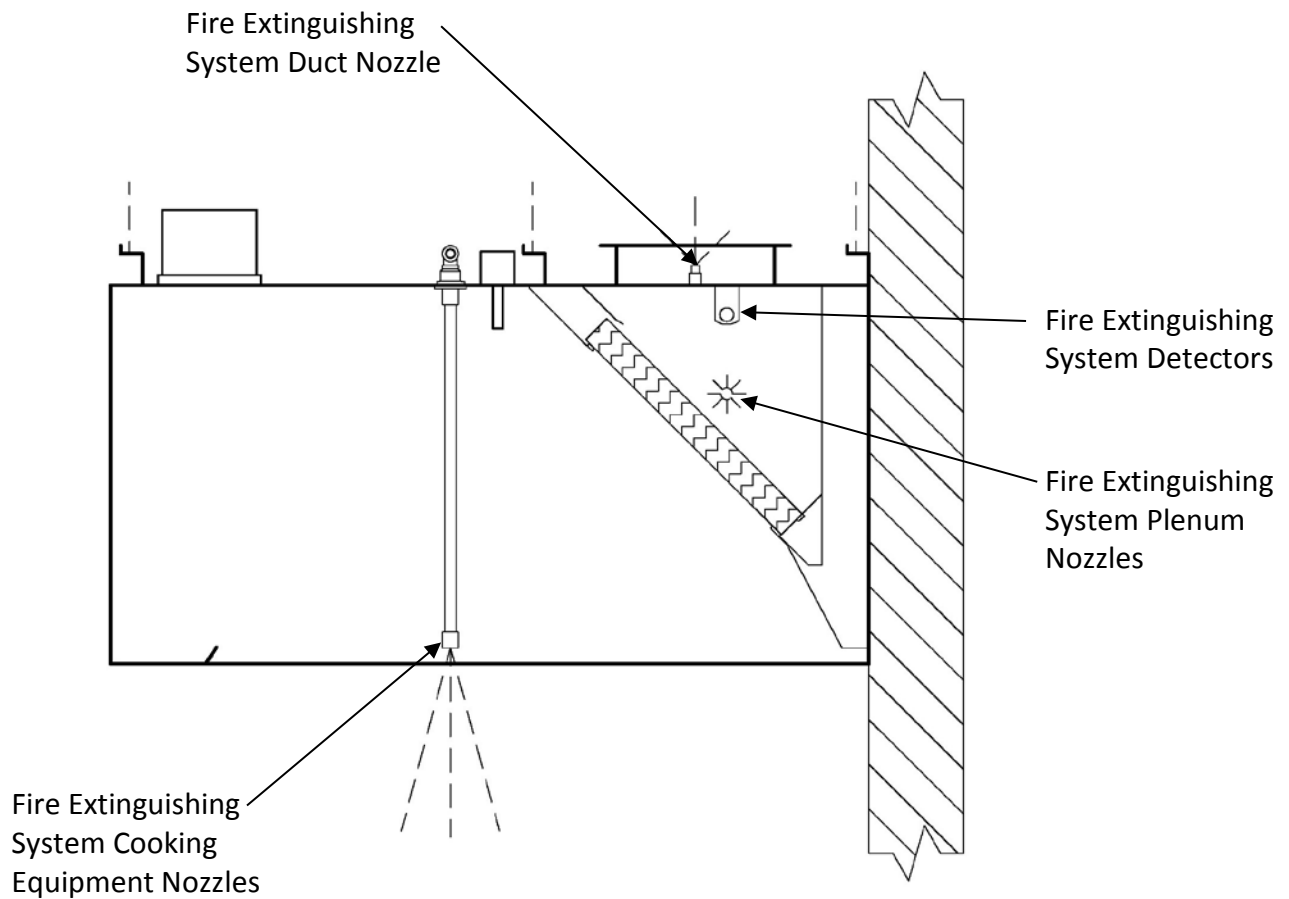

Figure 2-7-1
The National Fire Protection Association Standard 96 (NFPA-96) and the International Fire Code (IFC) requires the use of a Fire Extinguishing System to cover the cooking surfaces, Ventilator exhaust plenums (the area behind the filters/Extractors), and the exhaust duct (Refer to Figure 2-7-1). Upon activation, of the Fire Extinguishing System the follow will occur:
1. Fire extinguishing agent will discharge through the cooking equipment nozzles, the plenum nozzle(s) and the duct nozzle(s) (Refer to Figure 2-7-1).